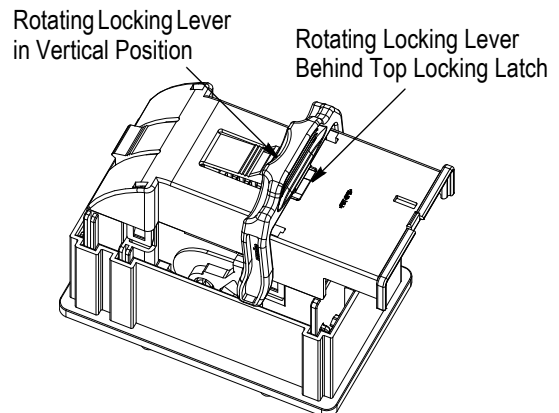

Figure 6
2. Rotate the rotating locking lever to a vertical position so that it is behind the top locking latch. The connector assembly is now in the pre-lock position. See Figure 6.
- Combined previous Figure 6 with 5 and 8 with 2